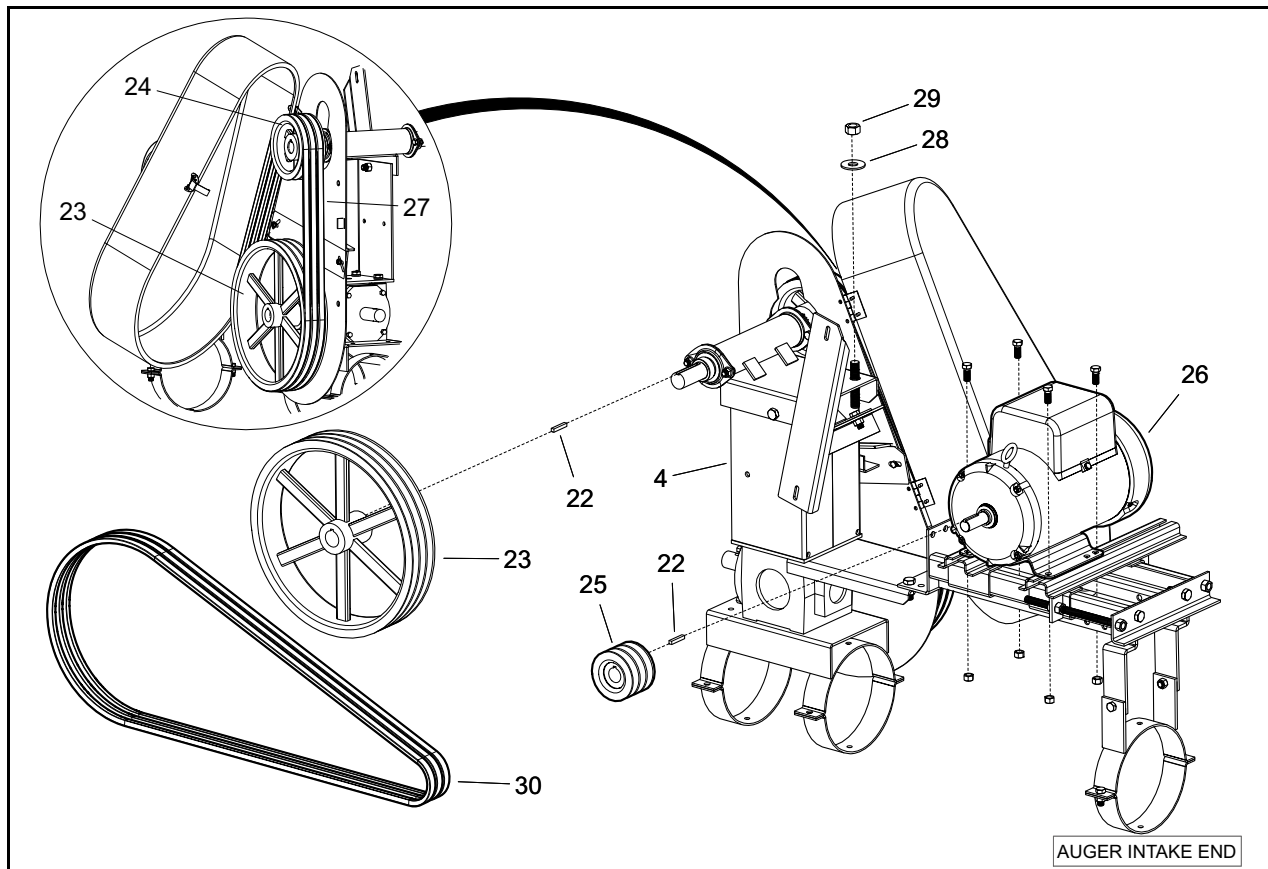

Figure 4 Installing Electric Motor, Pulleys, and Belts
12. Slide the 1/4" x 1-1/2" square key (22) and 15" pulley (23) onto the left side of the jackshaft, with the hub towards the jackshaft as shown in Figure 4, and tighten the set-screws.
13. Slide the square key (22) and drive pulley (25) onto electric motor shaft, and tighten set-screws.